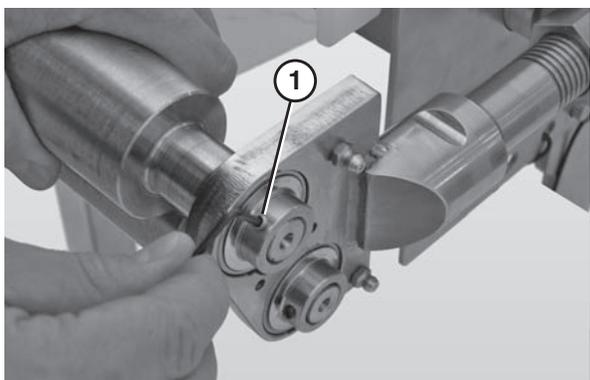

Figure 90
- Use a 4 mm hex wrench to loosen all the bearing fasteners (Figure 90, item 1).